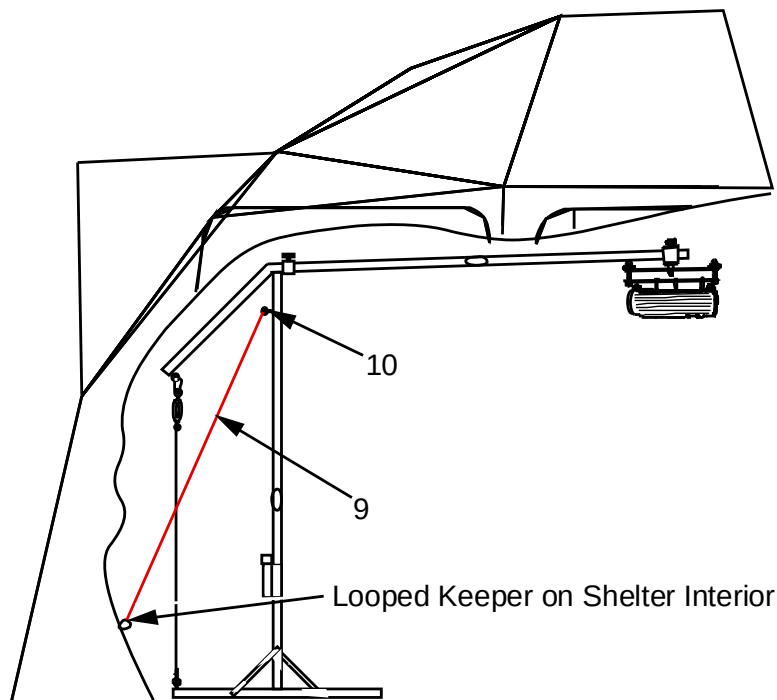

Figure 6. Secure Frame to Shelter.
10. Two ratcheting tie downs (9) are provided with the system. The top rear of the screen frame assembly has two eye-bolts (10) inserted to provide attachment points for the tie downs as shown in Figure 6. The tie downs (9) are connected to each eye-bolt (10) and then to looped keepers located at the base of the DRASH Shelter.